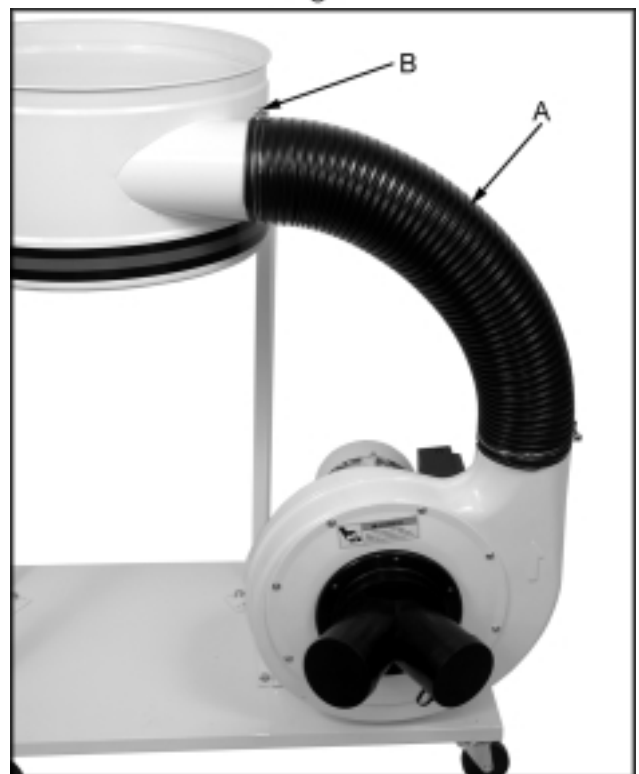

Fig. 6
6. Attach the hose (A, Fig. 6) between the fan housing and the collector housing with two clamps (B, Fig. 6). Tighten the clamps to secure the hose.